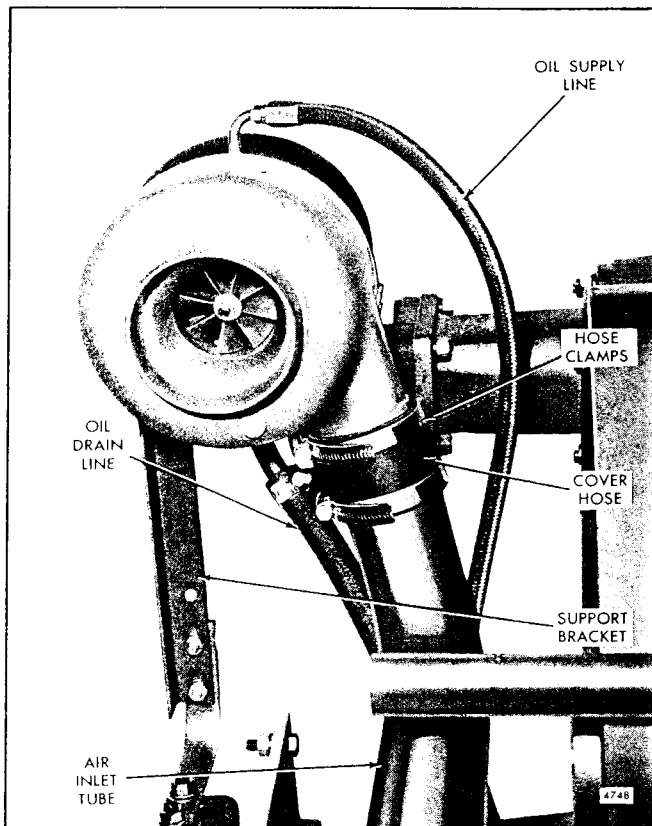

Fig. 4 - Turbocharger Support Bracket, Oil Lines and Air Inlet Tube
5. Thread eyebolts in two diagonally opposite tapped holes in the top of the blower housing. Then attach a rope sling and a chain hoist to the eyebolts as shown in Fig. 4.
1. Refer to Fig. 4 and remove the turbocharger support bracket.
2. Slide the cover hose (Fig. 4) over the end of the turbocharger air outlet opening and tighten the two hose clamps.
4. Install the oil drain line from the opening in the bottom side of the center housing (Fig. 4) to the cylinder block.